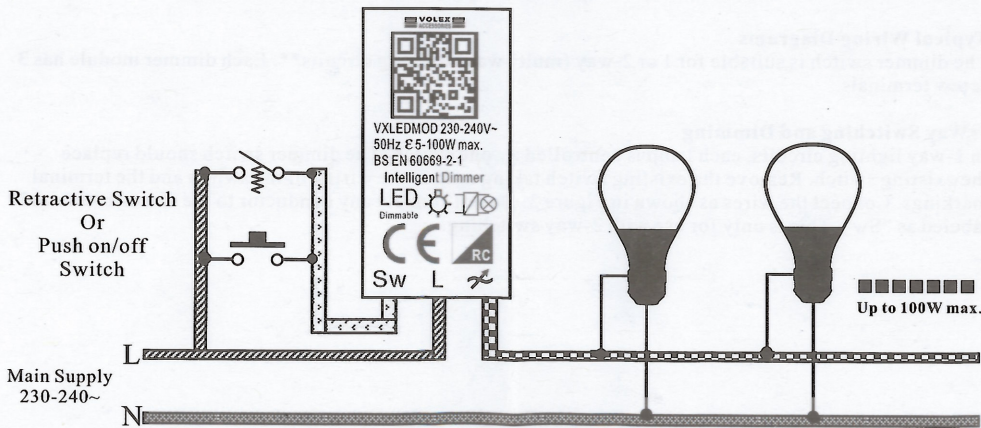

Figure 4 2-way (or Multi-Way) Switching and Dimming
In order to dim connected lamps from multiple locations, any number of retractive switches and/or push on/off switches may be installed. See Figure 4 for more details.
- One or two way switching with ability to dim/brighten light from both switch positions. (See Figure 4 for wiring details).
- LEDMOD dimmer can run either in Trailing Edge (TE) dimming mode or Leading Edge (LE) dimming mode. The dimmer automatically sets itself to the mode suitable for the lighting loads connected to it. (See "Auto Detection of Suitable Dimming Mode Settings" below)